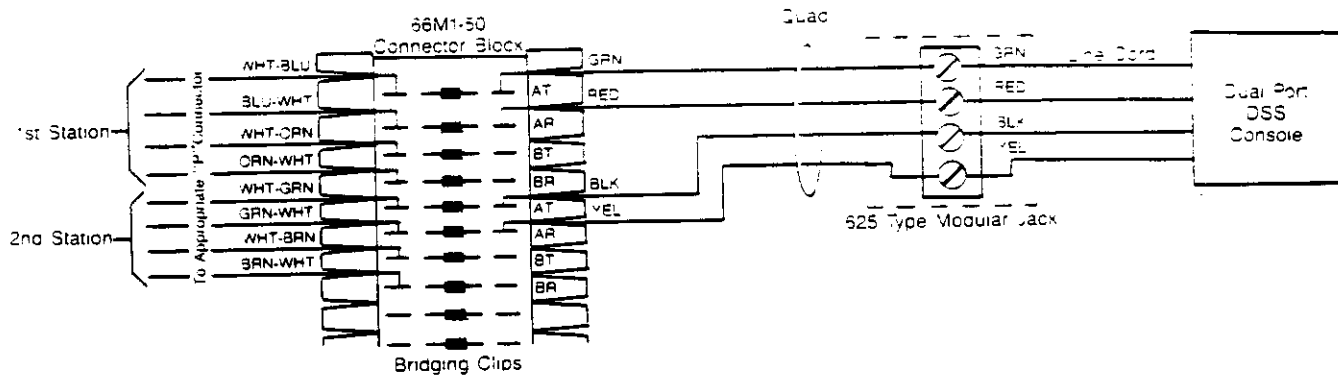

Figure 5-5 DUAL PORT (56 BUTTON) DSS CONSOLE CABLING, EK-824/1232/1648
3.14 Each dual port (56 button) DSS console requires 2 station positions, and is connected to the station blocks according to Tables 5-2 and 5-3, and Figure 5-5.